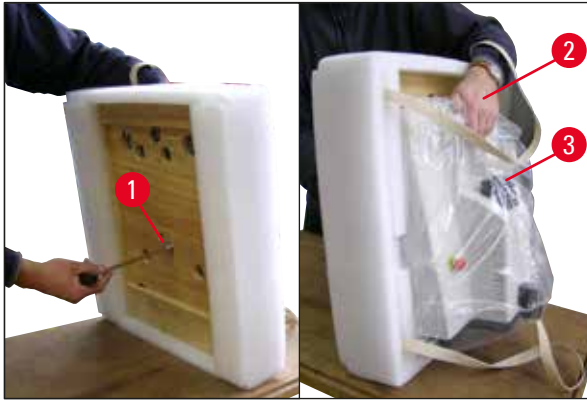

Fig. 5
- Tilt the instrument including the baseplate (→ Fig. 5) - hold the instrument with one hand on the recess (→ Fig. 5-2) for the buffer tray! NEVER lift or hold it by the cutting head (→ Fig. 5-3)! Unscrew the screw (→ Fig. 5-1) using the size 8 Allen key provided and remove the base plate.